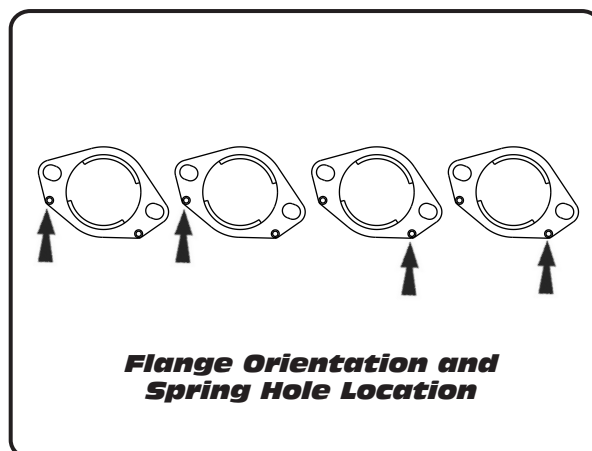

Fig. 1
- 5 Install Yoshimura manifolds and flanges into exhaust ports using stock header nuts (see Fig. 1 on page 2 for correct flange orientation).
- 8 Connect header to flanges using the supplied medium exhaust springs. Hook one end of the spring into the hole in the flange and pull the other end of the spring over the header's spring hook using the supplied spring puller tool (see Fig. 1 on page 2 for spring hole location).